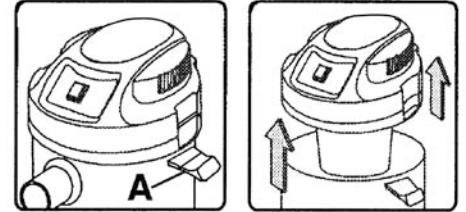

FIGURE 3
**Remove the entire contents of the carton**, please note that most of the accessories are packed inside the vacuum tank. To access these accessories, pull the cover latches (A) Fig.3 in an upward then downward motion, remove the tank cover/motor assembly and then remove the accessories inside the tank.